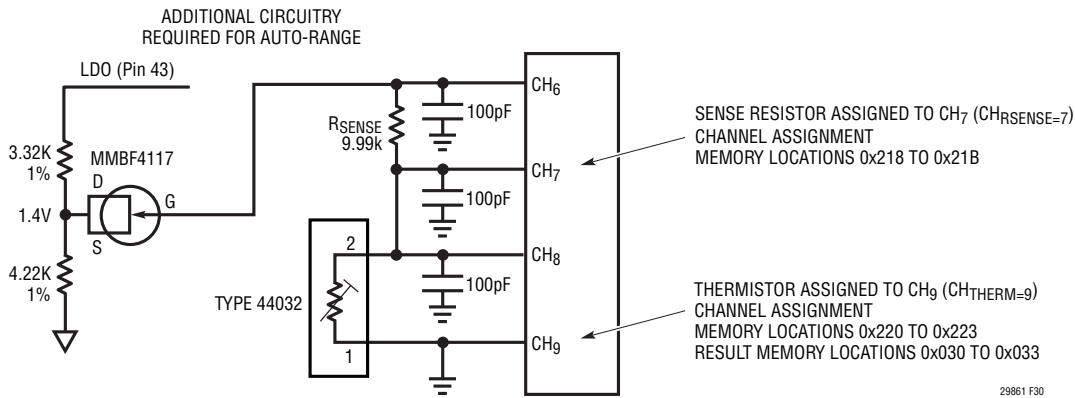

Figure 30. Differential Thermistor Example
*Additional Circuitry required for auto-range, see Figure 30 on page 56.
Figure 30 shows a typical temperature measurement system using a differential thermistor. In this example a 30kΩ (44032 type) thermistor is tied to a 9.99kΩ sense resistor. The thermistor is assigned channel CH9 (memory locations 0x220 to 0x223) and the sense resistor to CH7 (memory locations 0x218 to 0x21B). Channel assignment data is shown in Table 62 and Table 63).
Note 1: Additional Circuitry required for thermistors using auto-range. See Figure 30.